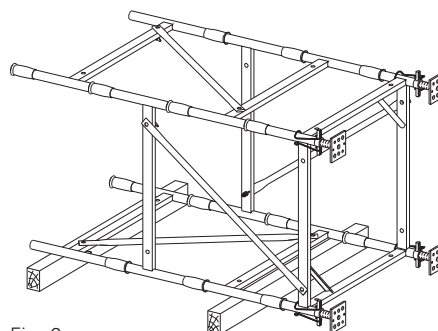

Fig. 6
7. Place tower base together with Base Spindles on timbers. (Fig. 6)